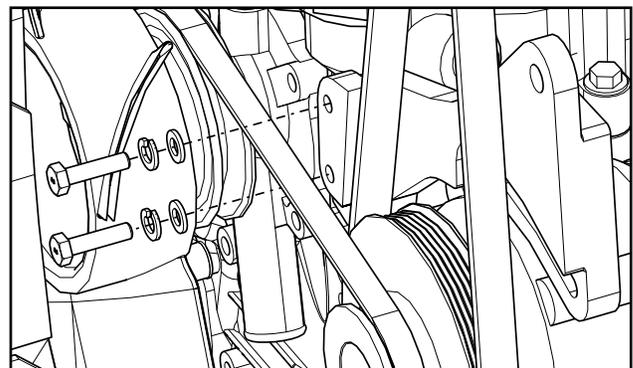

Fig. 2.6 (Alternator Bracket Hardware)
(1) M10 x 1.5 Flange Nut
**2.9** Torque the alternator bracket bolts. Reference Fig. 2.6 on previous page.